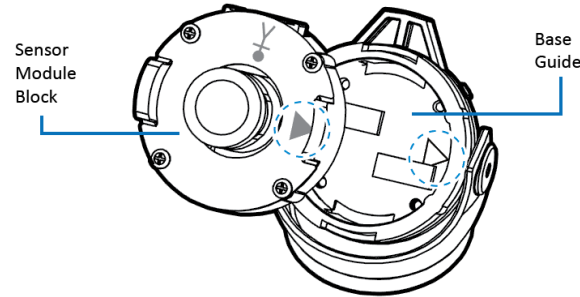

Figure 2
2. Take the four sensor modules out of their boxes and assemble them on to the sensor module block (Figure 2).